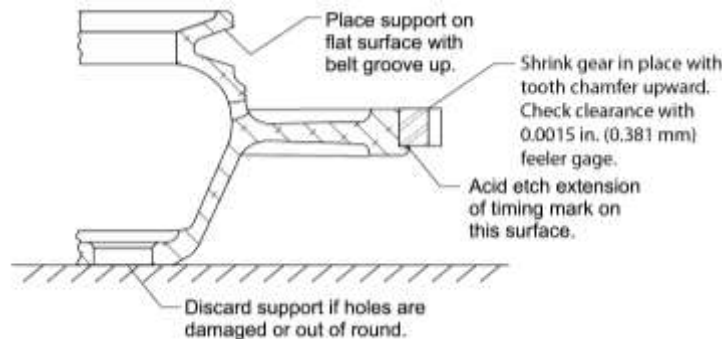

Figure 59
- (1) Put the starter ring gear support on a flat surface (Figure 59) with the alternator/generator belt groove upward.